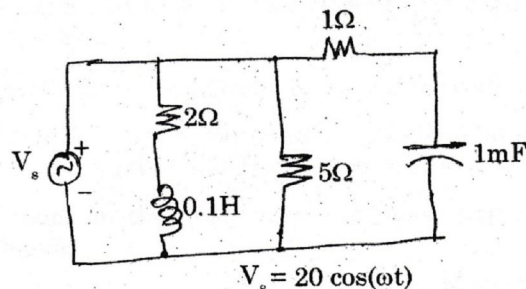

Fig. 15. a)
15. a) Consider the circuit shown in Fig. 15. a). Find the voltage across 1Ω resistor at resonance.